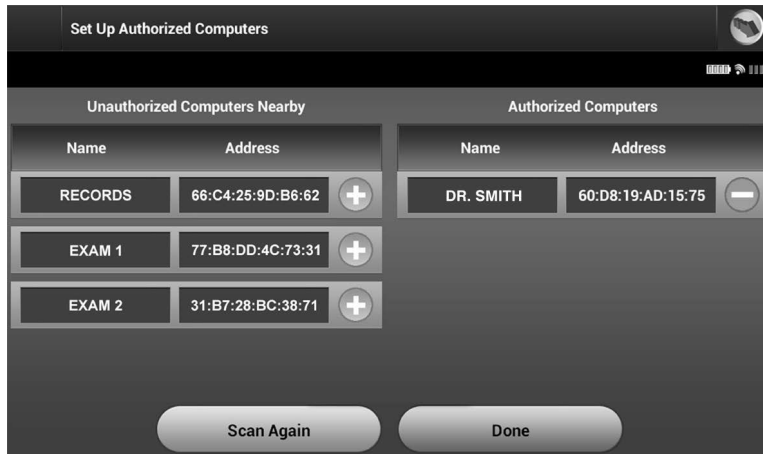

Figure 13: *Choosing a computer to authorize for Bluetooth® data transfer*
3. When the scan is complete the screen will list the discovered computers (the three computers having the strongest *Bluetooth*® signals) under the heading Unauthorized Computers Nearby (Figure 13). Choose the computer you wish to pair with and press the plus button next to it to complete the pairing process.